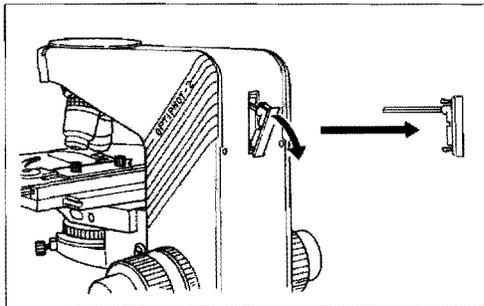

Fig. 2-23
⑭ Hexagon Wrench
- The hexagon wrench is stored in the back of the microscope stand. Take it out as shown in Fig. 2-23.